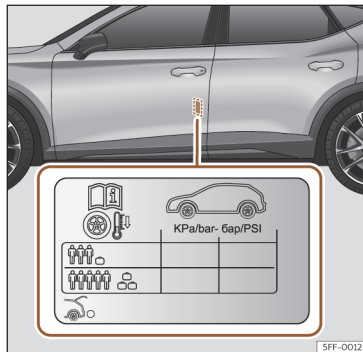

Fig. 221 Location of the tyre pressure sticker.
- Adjust tyre pressure to the load being carried by the vehicle >>> **Fig. 221**.
The values of the tyre pressure are shown on the sticker label located on the rear frame of the front left door >>> **Fig. 221.**
The tyre pressure must be adjusted according to the load the vehicle is carrying. If the vehicle is going to be fully loaded, increase the tyre pressure to the maximum load value shown on the sticker label >>> **Fig. 221.**
In the case of a minimised temporary spare wheel (125/70 R16 or 125/70 R18) inflate to a pressure of 4.2 bar as indicated on the tyre pressure label >>> **Fig. 221.**
- The driver is responsible for ensuring that all of the vehicle tyres are correctly inflated to the right pressure. The recommended tyre pressure is indicated on the label >>> **Fig. 221.**
- Tyre pressure should be that indicated on the label when the tyres are cold at all times >>> **Fig. 221.**